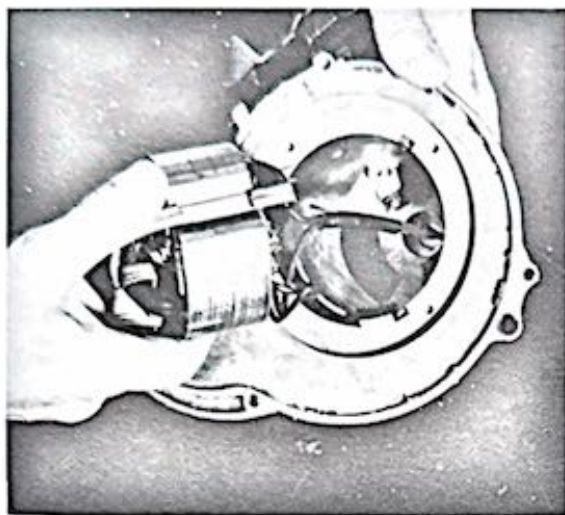

Figure 1-52. Removing the field from the motor housing.
(5) Remove the remaining screw and nut (43) that secure the field in the motor housing; pull the field from the motor housing as shown in figure 1-52.
are aligned with the threaded holes of the housing (see figure 1-52); slide the field into place.